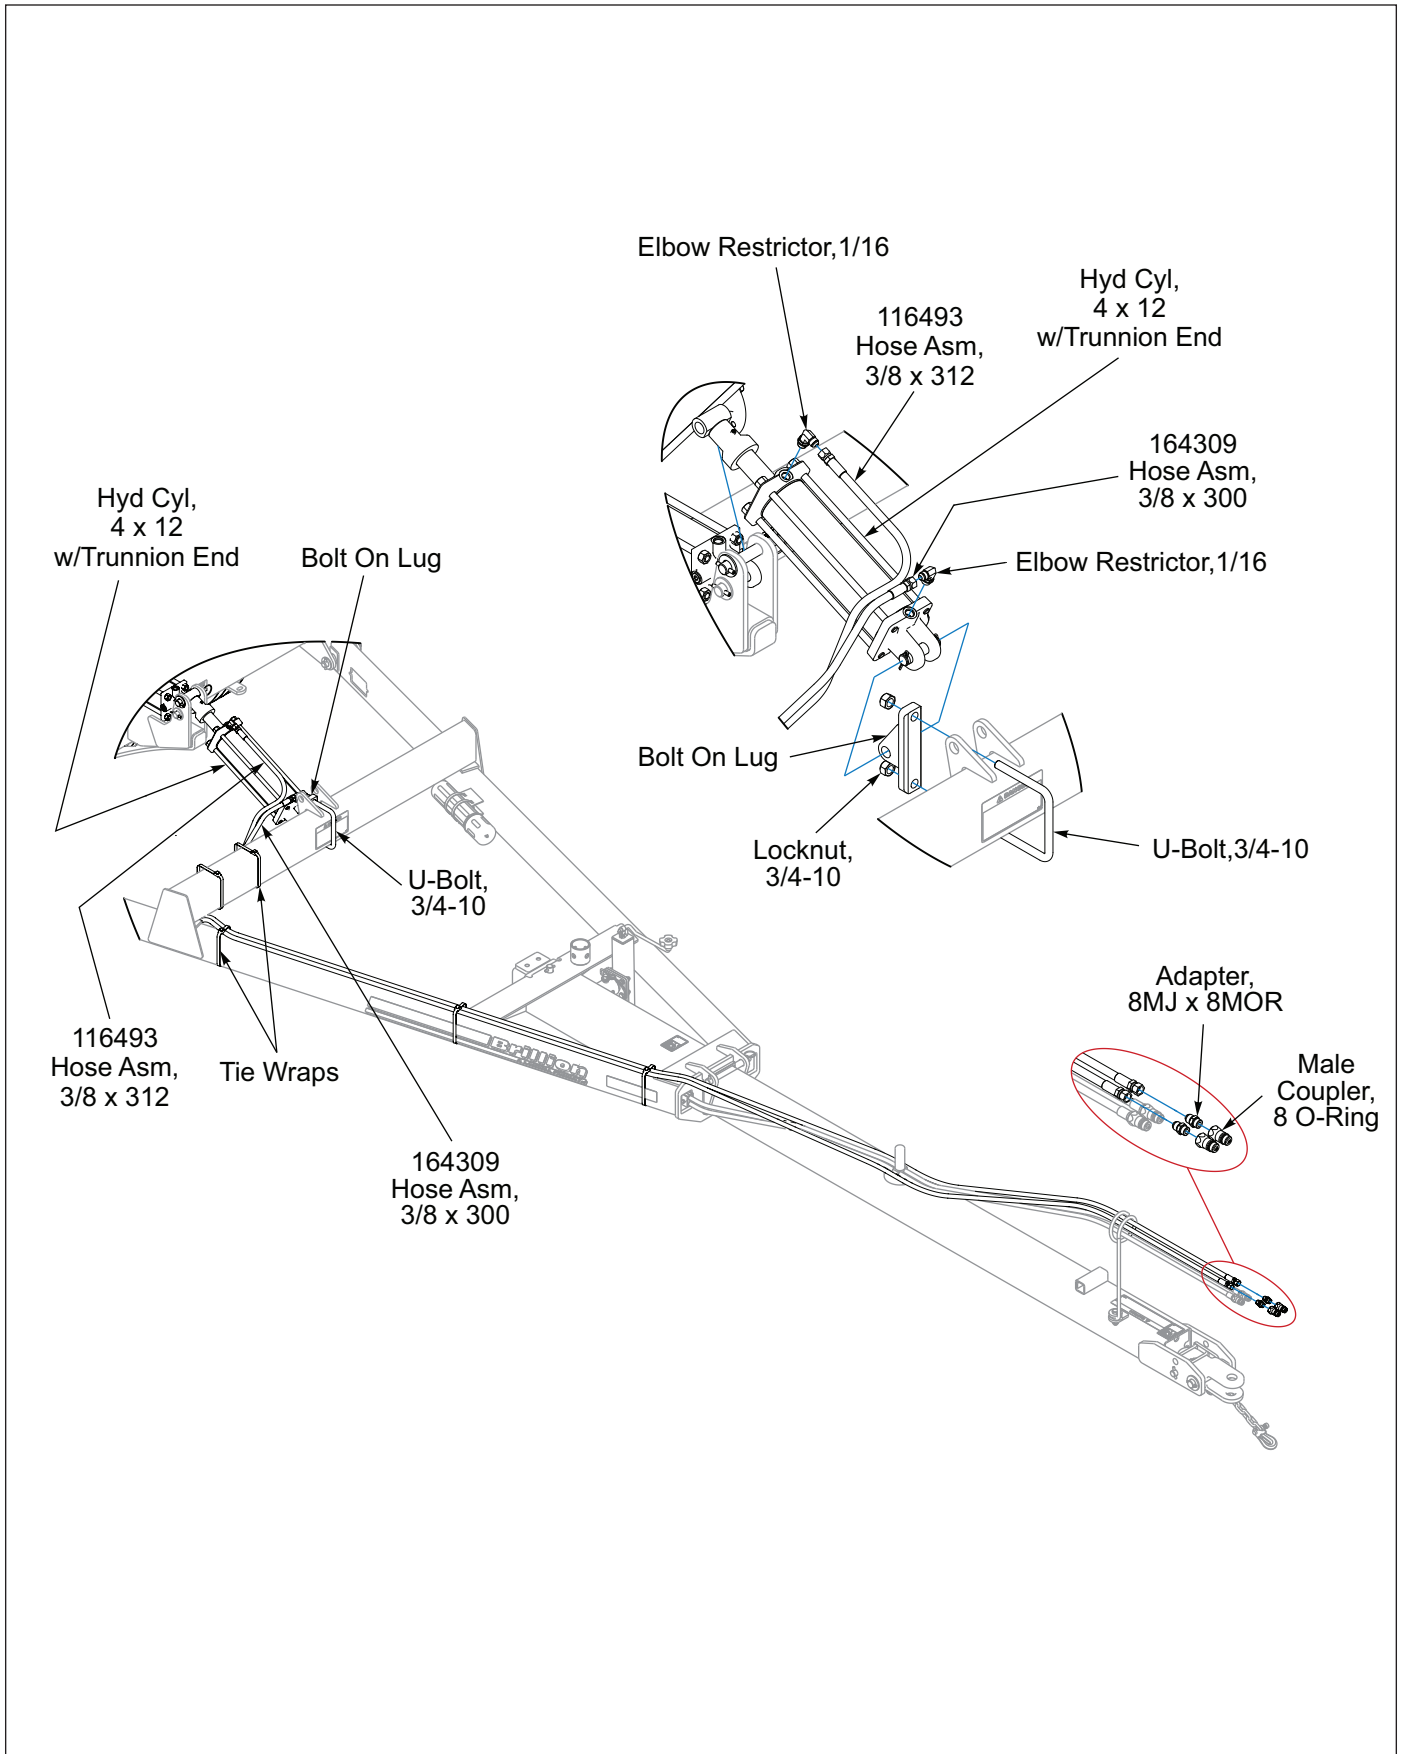

Figure 2-28: Hydraulic Top Link Kit - Optional
3. Install Bolt-On Lug between Drawbar Lugs with 3/4-10 U-Bolt and Locknuts. **See Figure 2-28.**